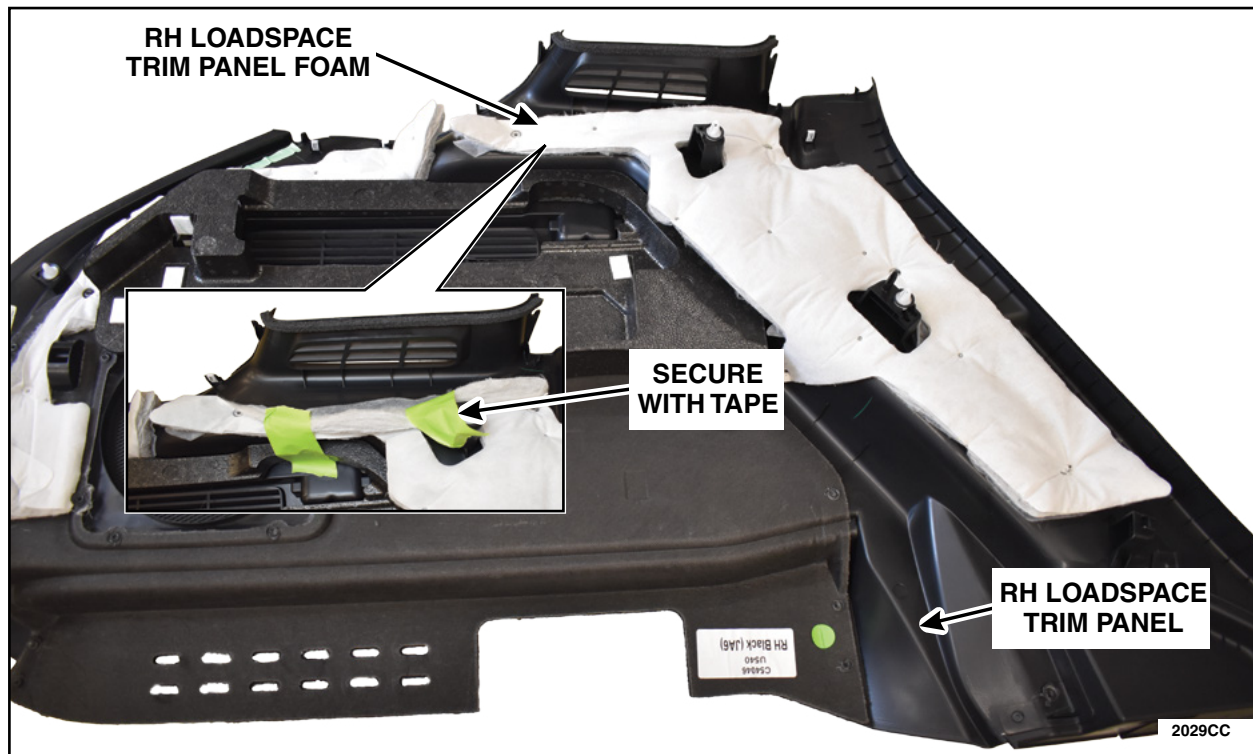

FIGURE 1
2. Fold back the Right Hand (RH) loadspace trim panel NVH material and secure it with pieces of tape. See Figure 1.